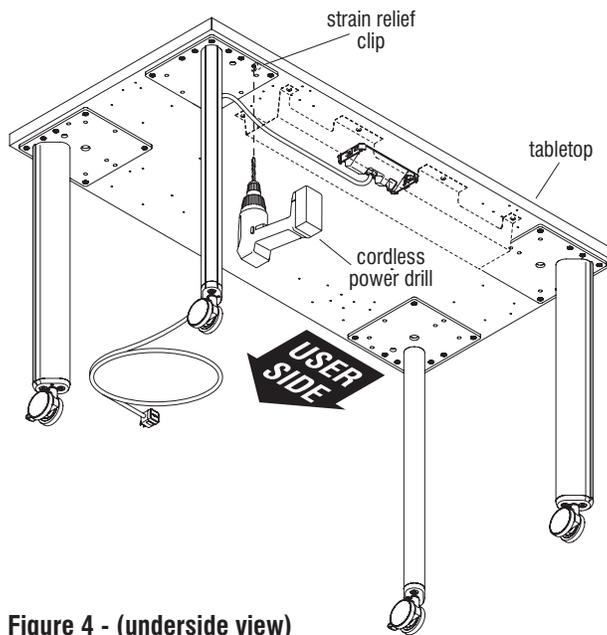

Figure 4 - (underside view)
1. Locate strain relief clip and position it at the desired locations. Using the clip as a template, mark the desired mounting hole locations, then move the clips away (Figure 4).
2. Carefully bore a $\frac{1}{8}$ " diameter pilot hole at the center of the marked hole, underneath the tabletop using a cordless power drill. Take care to not drill too deep, piercing the tabletop (Figure 4).